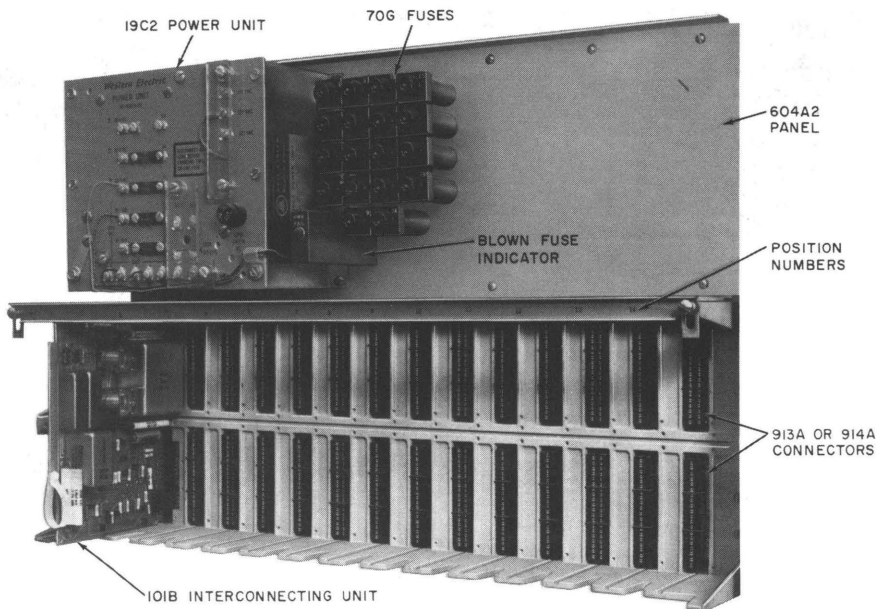

Fig. 6—101B (MD) IU Mounted in 604A2 (MD) Panel
1.05 The 604B panel (Fig. 3 and 5) is now rated MD but may be used when available; an installed 604B should be replaced with a 604C (Fig. 3 and 4) only when defective. These conditions also apply to the MD rated 604A-type panel (Fig. 6).
- Unit, Power, 19C2 (for 604A2 panel) (Fig. 6)